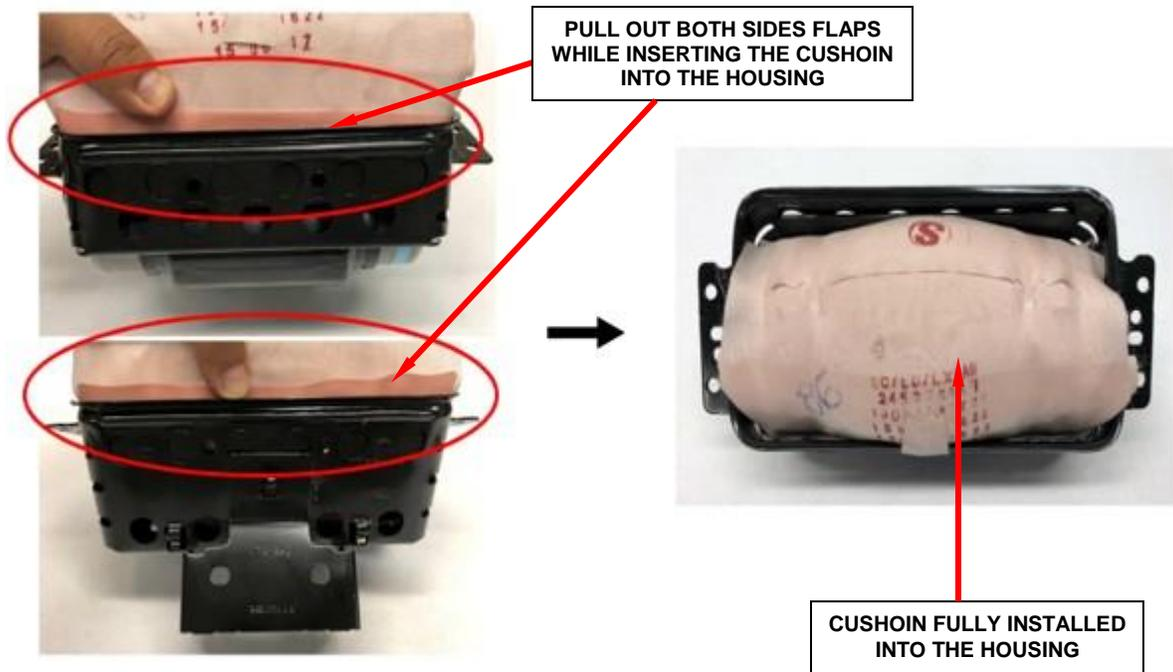

Figure 21 – Side Flaps Must Be Held Out
k. Insert the cushion, pulling out both side flaps (Figure 21).